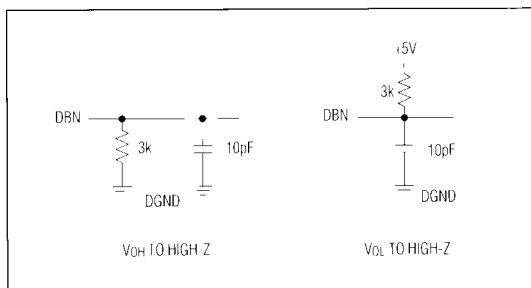

Figure 4. Load Circuits for Output Three-State Delay Test ( $t_{12}$ )
**Note 8:** t12, the time required for the data lines to change 0.5V, is measured with the load circuits of Figure 4.